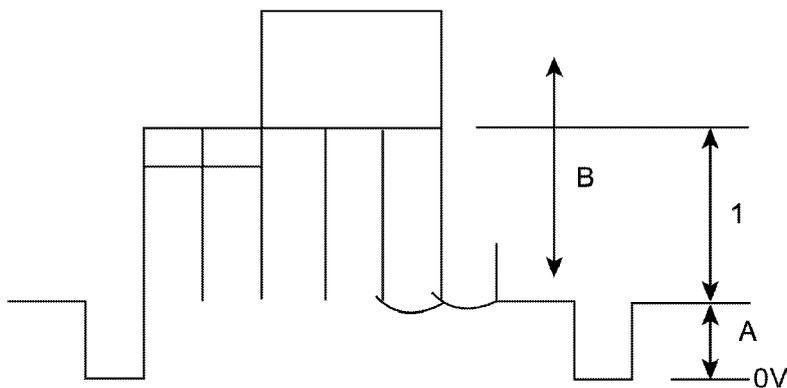

Fig. 4
6. Set (A) to  $2.3 \pm 0.2V$  by BRT (CHK2) at measurement point TPL 2 Fig. 4.
1. Connect oscilloscope probe to TPL 2 (G OUT) with  $10k\Omega$  series resistor and adjust Contrast so that (B) as in Fig. 4 is  $2.4 \pm 0.1V$ .
2. Adjust "Sub Colour" so that waveform as in Fig. 4 (1)  $2.5 \pm 0.1V$ .